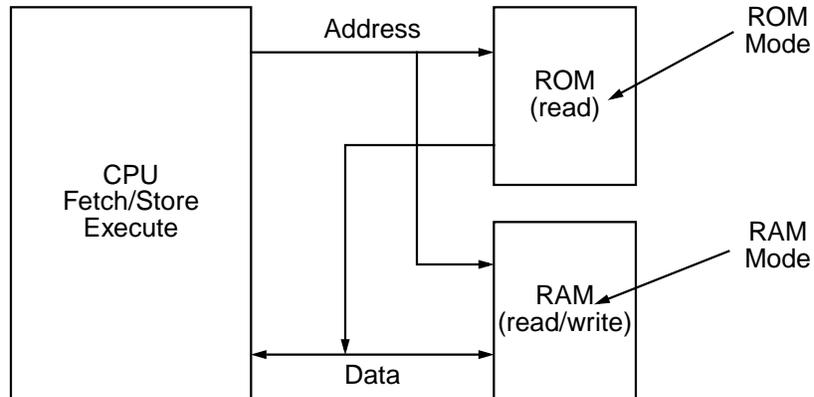

Figure 6. Mode analysis schematic
**Example with Sequential Element:** The following command is commonly used for disabling the scan chain (see Figure 6). To disable the scan chain, propagate the test-mode constant value to the scan pin of the flip-flop, as follows: